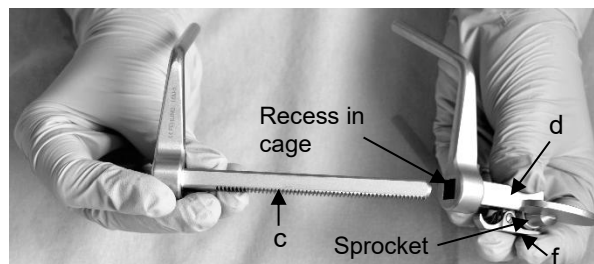

Fig. 16
1. Insert the toothed rack (c) into the recess of the cage (d). At the same time, release the lock (f) by pressing in the direction of the toothed rack (c) (Fig. 16).